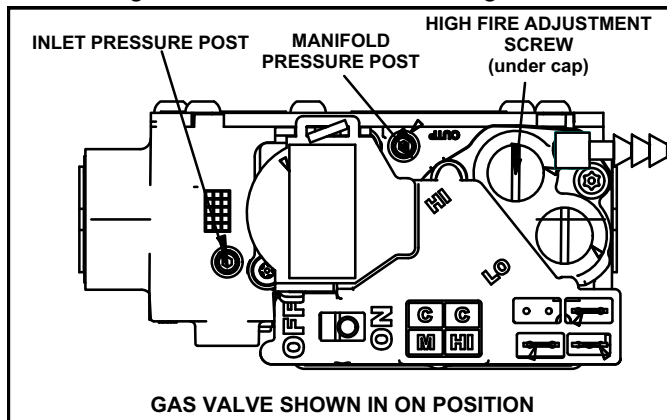

FIGURE 59
Gas Valve Operation (Figure 59)
- 6 - Move gas valve switch to **OFF**. See figure 59.
- 8 - Move gas valve switch to **ON**. See figure 59.
An inlet post located on the gas valve provides access to the supply pressure. See figure 59. Back out the 3/32 hex screw one turn, connect a piece of 5/16 tubing and connect to a manometer to measure supply pressure. See table 16 for supply line pressure.
A manifold pressure post located on the gas valve provides access to the manifold pressure. See figure 59. Back out the 3/32 hex screw one turn, connect a piece of 5/16 tubing and connect to a manometer to measure manifold pressure.
- 5 - If necessary, make adjustments. Figure 59 shows location of high fire and low fire adjustment screws.